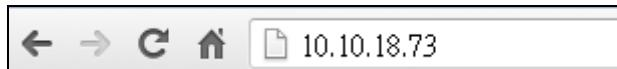

Figure 4-26: IEI iMAN Web Address
Step 2: On the remote management console, open a web browser. Enter the managed system IP address in the web browser (**Figure 4-26**).